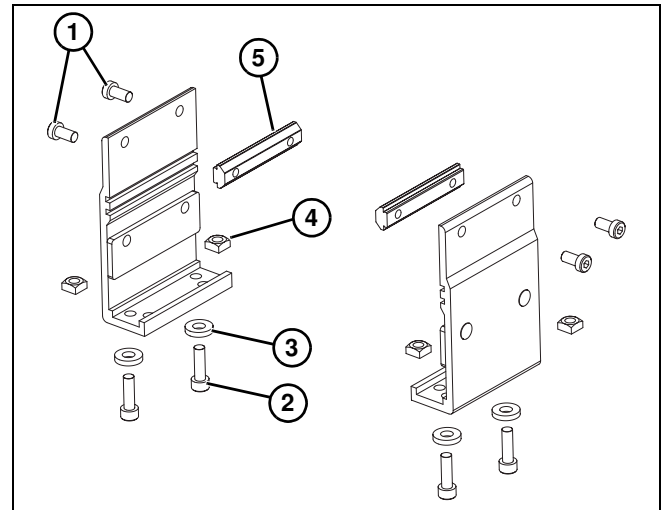
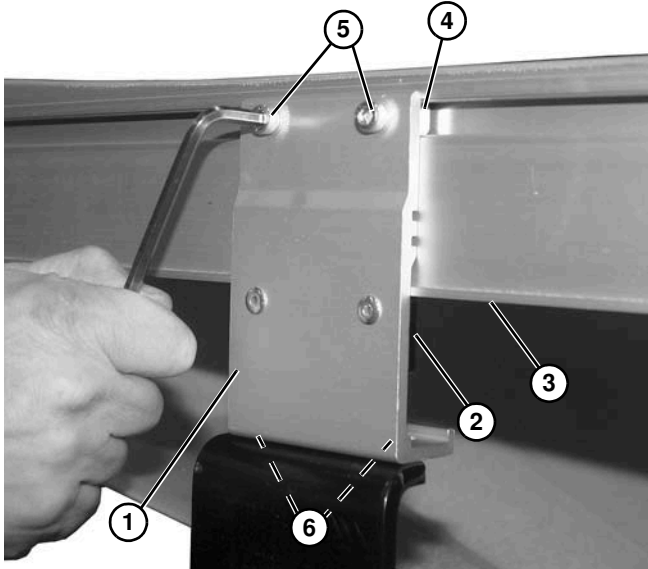

Figure 14
Figure 16
1. Locate brackets. Exploded views shown in Figure 14.
2. Remove screws (**Figure 14, item 1 & 2**), washers (**Figure 14, item 3**), nuts (**Figure 14, item 4**), and tee bars (**Figure 14, item 5**) from brackets.
4. Install mounting bracket (**Figure 16, item 1**) onto conveyor frame, with frame plate (**Figure 16, item 2**) resting on bottom of conveyor frame (**Figure 16, item 3**). Fasten brackets onto tee bars (**Figure 16, item 4**) in conveyor frame with mounting screws (**Figure 16, item 5**).
5. Fasten brackets to support stand with mounting screws (**Figure 16, item 6**), washers (**Figure 14, item 3**) and nuts (**Figure 14, item 4**).